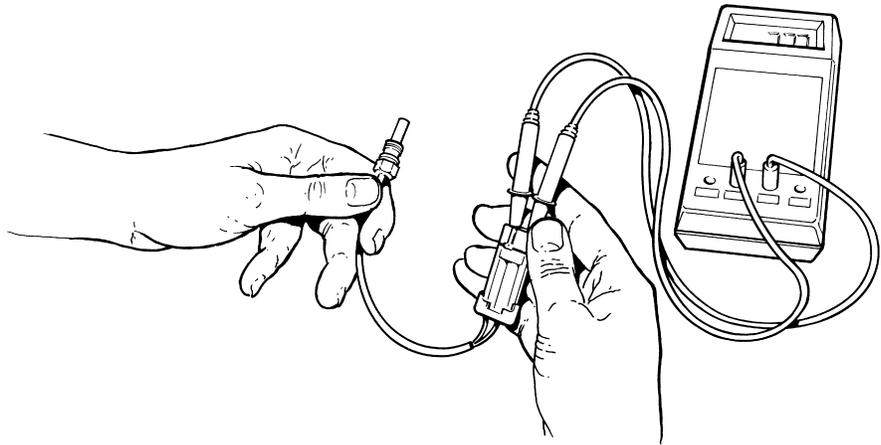

Figure 4-32. Temperature Sensor Test
1. Connect a multimeter (adjusted to measure resistance) to the temperature sensor as per figure 4-32. The polarity of the sensor connections to the multimeter is not important.